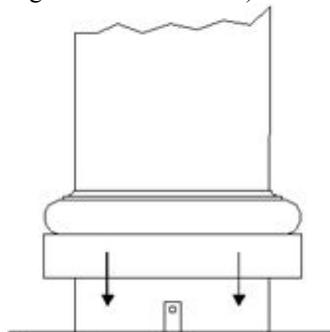

Figure 1
3. Assembly: If installation requires a method of securing column in place before load is applied, metal "L" brackets (suggested size 1-1/2" x 1-1/2") may be used as long as they do not interfere with the seating of the cap and the base. **NOTE:** Always drill clearance holes in column shaft and secure angle brackets with through bolts before Column is put in place. - **DO NOT USE SCREWS - DO NOT OVER TIGHTEN.** (See Figures 1 and 2 below.)